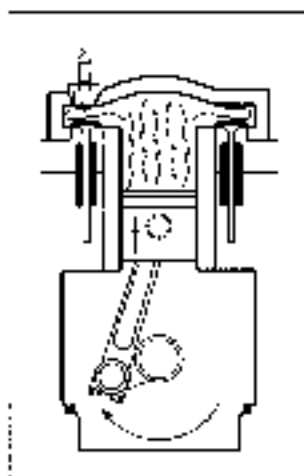

Figure 6-15:
2. **Compression stroke:** (See Figure 6-15.) The piston moves back up, compressing the fuel/air mixture into a tiny space between the top of the piston and the top of the cylinder. This space is called the combustion chamber and also happens to be where the electrode end of the spark plug enters the cylinder. The difference between the total space inside the cylinder and the space inside the combustion chamber is called the compression ratio. It indicates that the pressure has been raised from normal air pressure of 15 psi (pounds per square inch) to hundreds of psi, which makes the resulting explosion much more intense.